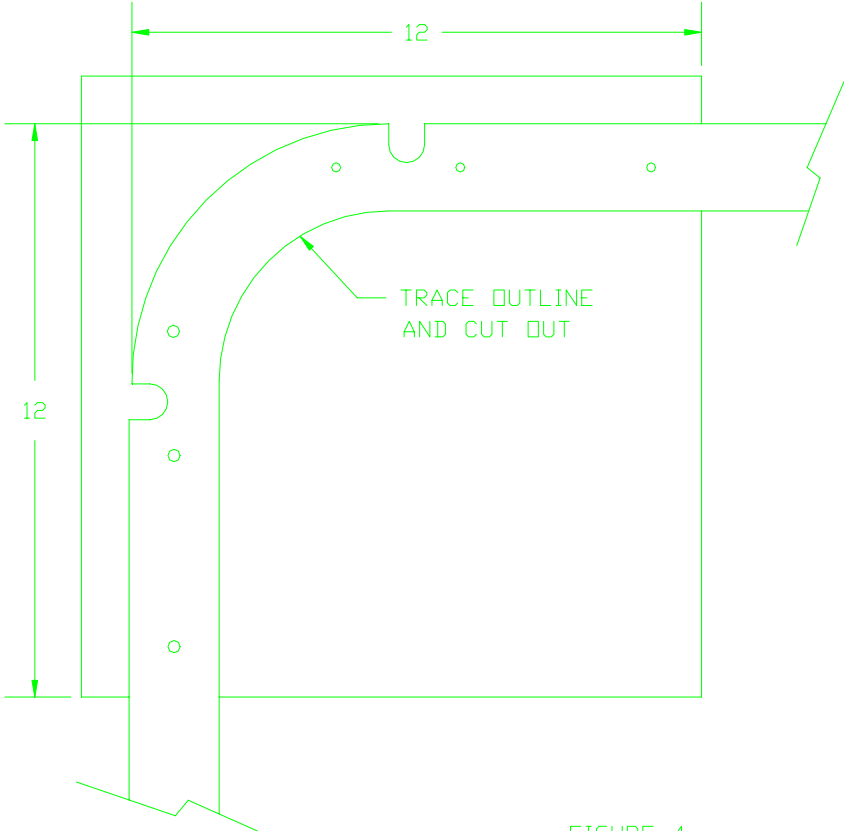

FIGURE 4
- 22) Trace the outline of a RBULK 2 onto a piece of 1/2" or thicker plywood and cut out. Make six pieces. Figure 4.